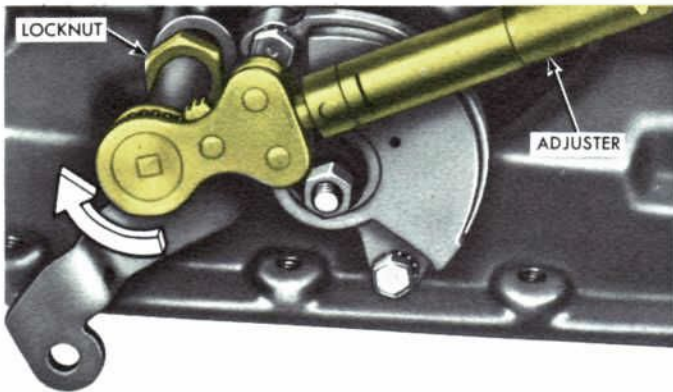

Fig. 95—Band Adjustment
- ① Loosen the locknut on the adjusting screw several turns (Fig. 95).
- ② Torque the screw to 10 ft-lbs, or until the adjuster wrench overruns.
- ③ Back the screw off exactly one turn.
- ④ Hold the adjustment and torque the locknut to the 35-45 ft-lbs.